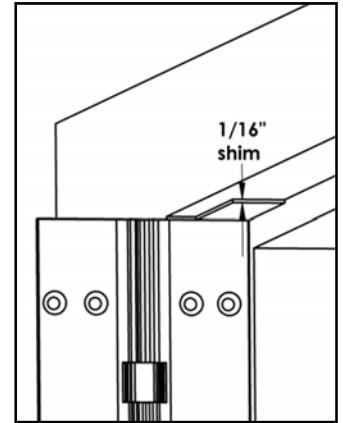

Fig. 1
1. With the hinge open, place the hinge frame leaf against the frame rabbet making certain that the alignment rib is flush against the frame face along its entire length. Position the top of the hinge 1/16" (**1/8" maximum**) below the header. **Note: A 1/16" shim is recommended due to initial settling of the bearings.** (See Fig. 1)